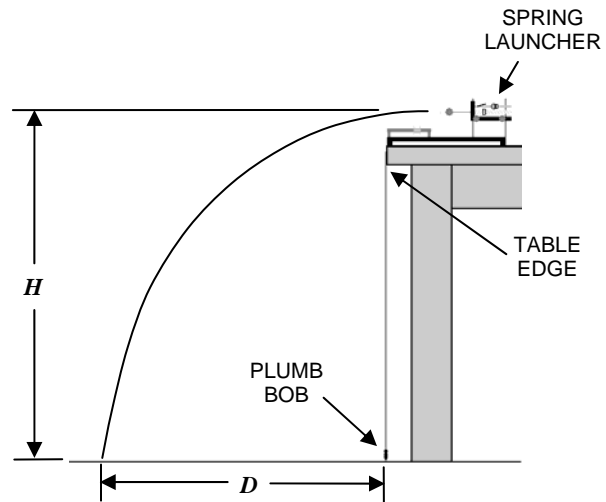

FIGURE 9
B) Before you start taking data you need to set up a few things. First, situate the launcher so that it is right at the edge of the table. **See Figure 9** on the next page.
You are going to reference where the ball lands to a point on the floor that is directly below the edge of the table. See **Figure 9**. At the front of the lab there is a *plumb bob* which you can hang from the edge of the table. This will allow you to find where the edge of the table is relative to the floor. There is also tape at the front of the lab that you can use to make a mark on once you find the reference point with the plumb bob.
- D)** Based on your equations you should decide on what data you need to take. Make your own chart to hold this data. Note that the height of the table is NOT the height, H , in **Figure 9**. Keeping this in mind, take your data and fill out the chart.
- E)** Use your equations and your data to determine the distance, D . Note that the horizontal distance that the ball travels from the launcher is NOT the distance, D , in **Figure 9**.